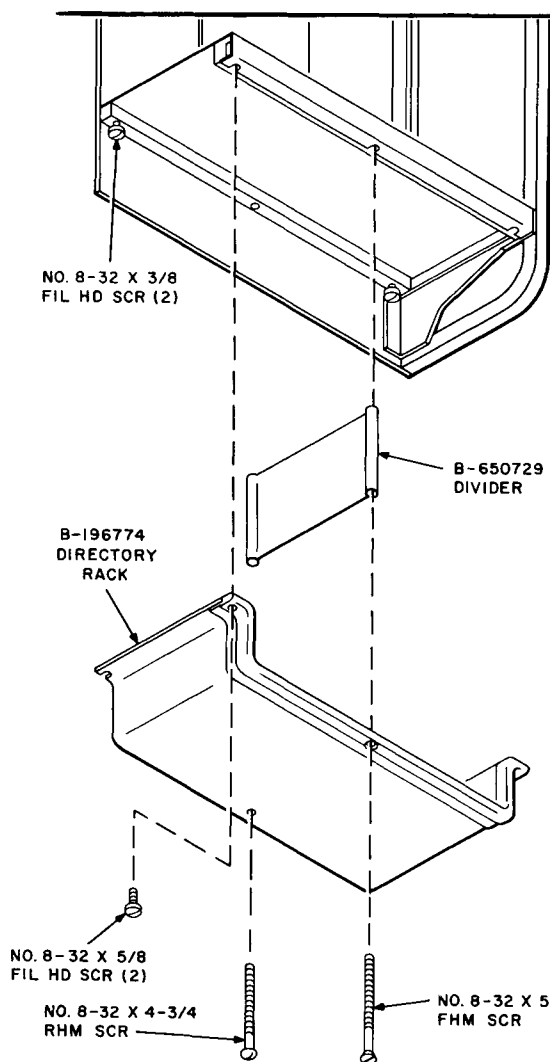

Fig. 6 — Installation of KS-19267, List 11 Directory Rack
- 3.18** If KS-19267, List 11 directory rack is required, install as shown in Fig. 6.
- (a) If KS-19267, List 11 director rack is present, remove per Fig. 6.